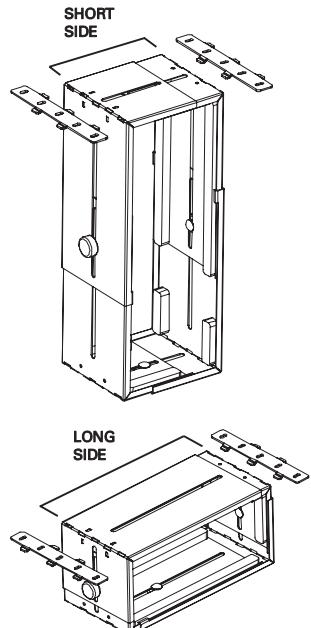

FIG. 5
- c. When mounting the short side of the CPU450 to the underside of a desk, the side of the "circle" bracket with two tabs should be inserted into the CPU450, while the side of the "rectangle" bracket with three tabs should be inserted into the CPU450. When mounting the long side of the CPU450 to either the underside of a desk or on a wall, the side of the "circle" bracket with three tabs should be inserted into the CPU450, while the side of the "rectangle" bracket with two tabs should be inserted into the CPU450. FIG. 5